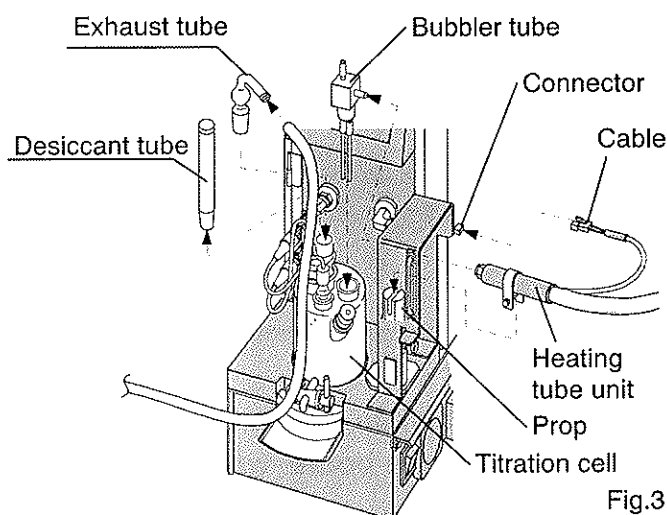

Fig.3
- 7) Install the bubbler tube onto the measuring cell (Fig.3).
- 8) Connect the heating tube unit to the bubbler tube, and fix the heating tube unit at the support prop (Fig.3).
- 11) Remove the desiccant tube of measuring cell, and install the exhaust tube instead (Fig.3). Connect the supplied tube (985210060) to the tip of exhaust tube (Fig.3). The other end of tube (985210060) must be extended out where well ventilated enough to protect safety.
- 12) Install the nozzle cover by reverse (2) steps.
- 13) Connect the heating tube unit cable to the connector (Fig.3).